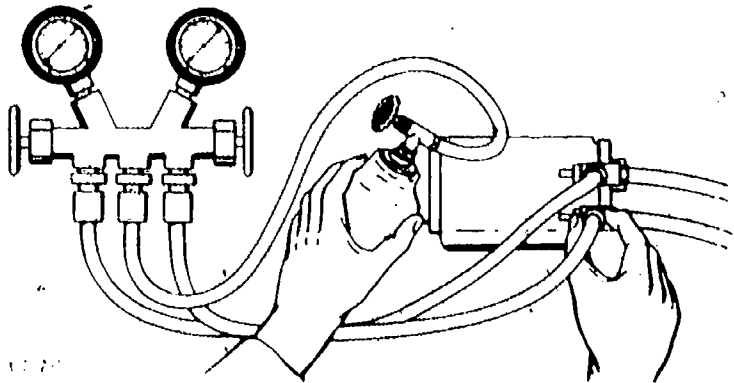

Fig. 66 - Using Refrigerant Container To Purge Air From Test Hoses.
**NOTE:** A better method of bleeding air from test hoses is to use 15-oz. (425-g) can or tank connected to center manifold hose (Fig. 66). Before mid-positioning service valves, loosen hoses at service valve, open valve on can or tank. Open high side manifold valve to bleed high side hose. Repeat with low side. Tighten hoses and continue. On installations using Schrader connector, bleed hose to Schrader adapter before tightening on hose connector.